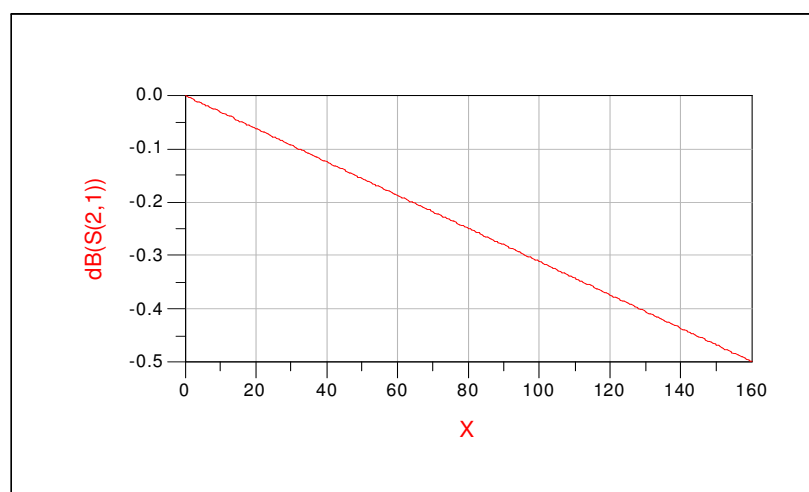

Figure 8 - Attenuation versus the length X.
2. Draw the following graphs : $S_{21}(dB)$ (attenuation) versus the length X, Z_{in} (input impedance) versus the length X and $S_{21}(phase)$ (phase response) versus the length X, as shown in Figures 8 and 9.